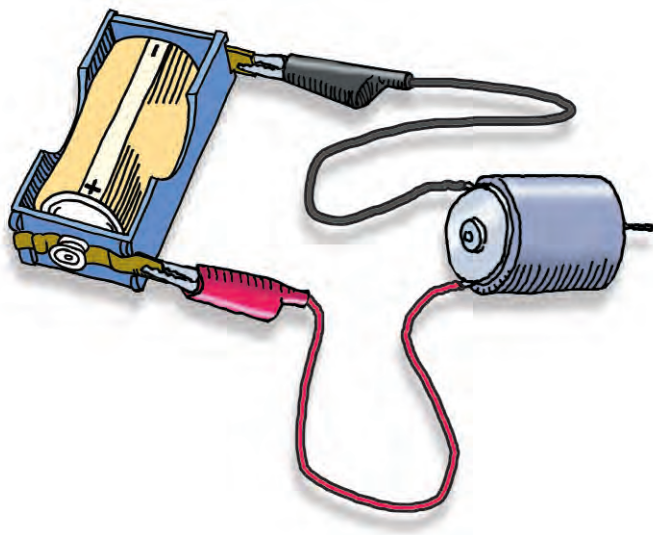

Figure 3.3 What happens when you connect the motor to the battery?
7. Now repeat Steps 4 through 6, using the small electric motor in place of the lightbulb (see Figure 3.3). Record your observations.